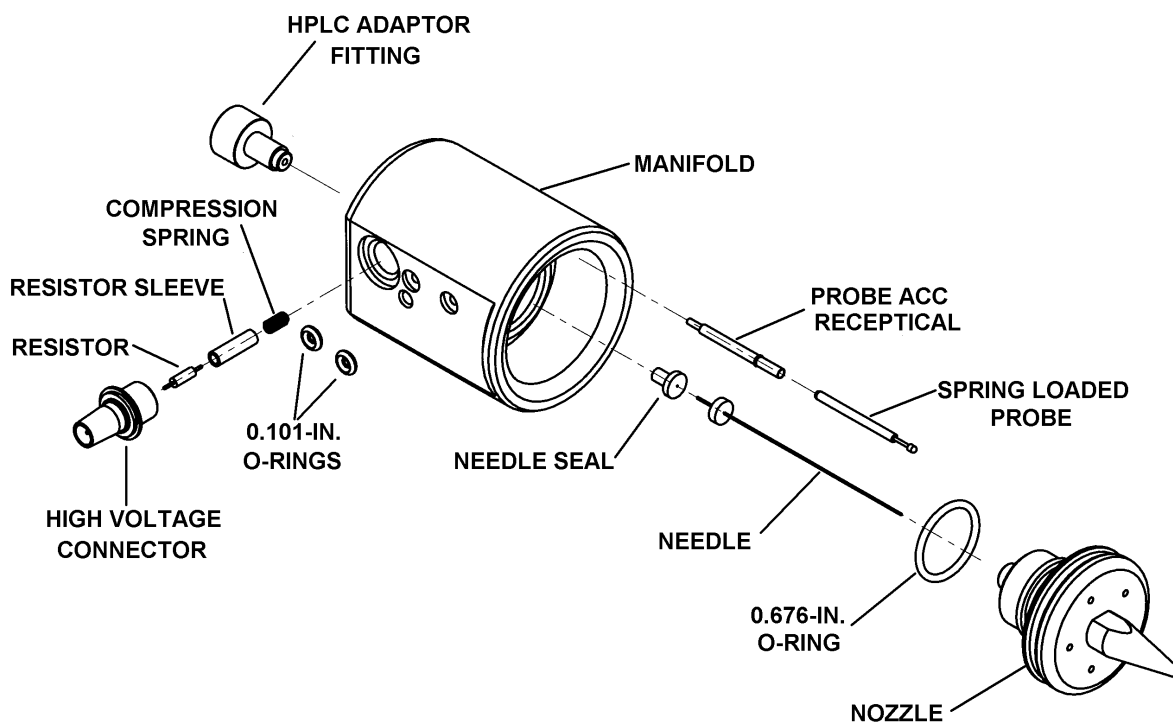

Figure 5-8. Exploded view of the ESI probe
You need to remove the nozzle, needle, and needle seal to clean the ESI manifold. You need to replace the needle if it is damaged. You need to replace the needle seal if the sheath gas is leaking at the needle seal-needle interface. See Figure 5-8.
To reassemble the ESI probe (that is, to reinstall the ESI sample tube, nozzle, needle, and needle seal), proceed as follows (see Figure 5-8):
1. Ensure that the two 0.101-in. ID O-rings (Figure 5-8) are properly seated in the nitrogen inlets on the probe.